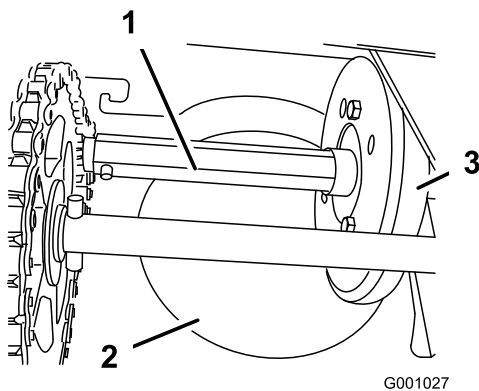

Figure 52
- Remove the dipstick and slowly pour oil into the oil-fill tube to raise the oil level to the Full mark on the dipstick (Figure 52). **Do not overfill.**
Lightly lubricate the hex shaft yearly with automotive engine oil (Figure 52).
Important: Do not get oil on the rubber wheel or the aluminum friction drive plate because the traction drive will slip (Figure 52).